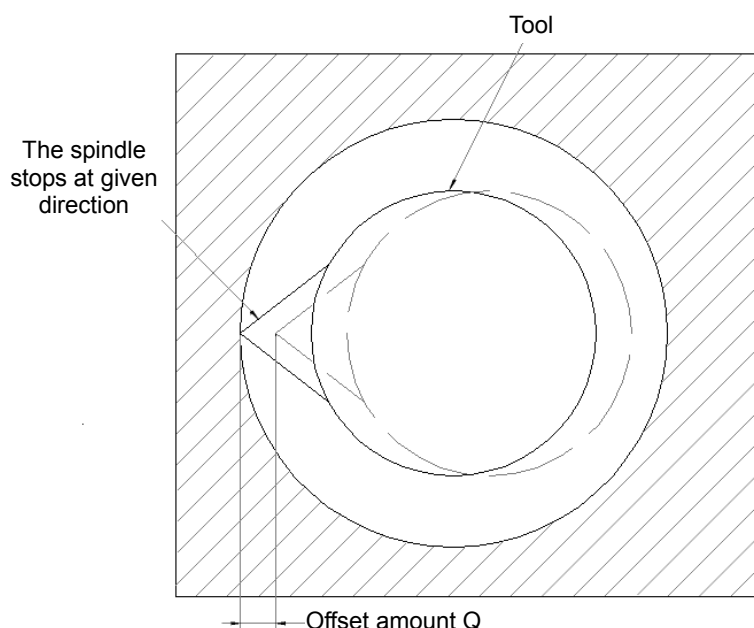

Figure 2: Offset amount for fine boring cycle
- offset the boring cutter for distance Q away from the hole wall (Figure 2) such that the cutter can move out of the hole without scratching the machining surface
The offset amount shown in Figure 2 is given by parameter Q. The value of parameter Q must be positive (if a negative value is given its absolute value will be used instead; to offset 1.0mm, set the parameter to Q1.0). The offset direction can be set by coordinates (+X, +Y) or (-X, -Y). Do not give too big a value to parameter Q as the tool center may hit the workpiece as a result.